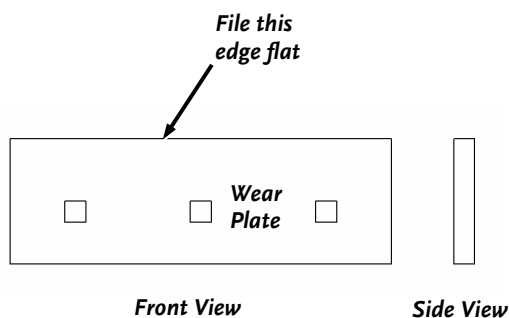

Figure 44
2. File the edge of the Wear Plate to take out any nicks and to square rounded edges (**Figure 44**).